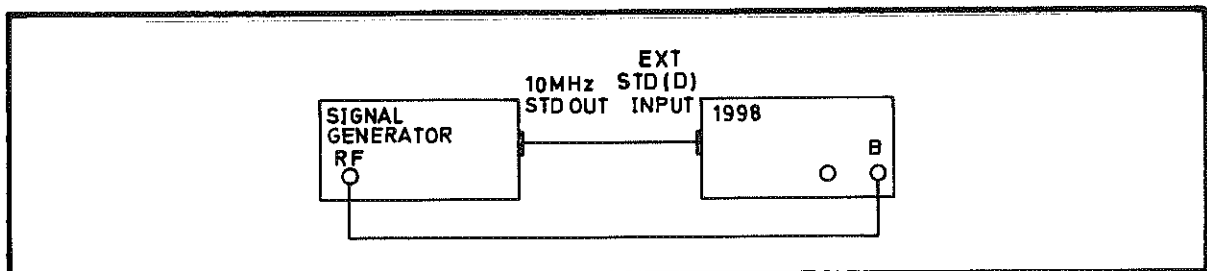

Fig 7.23 Connections for the 1998 Channel B Sensitivity PVP
- (1) Connect the test equipment as shown in Fig 7.23. Verify that the EXT STD indicator lights.
- (2) Select FREQ B.
- (3) Set the signal generator output to the frequencies shown in Table 7.8 in turn. Set the 1998 gate time to the corresponding value.
- (4) At each frequency, determine the minimum input level to the 1998 which gives stable counting. Verify that this is not more than the level shown in the table.
- (5) Disconnect the test equipment.